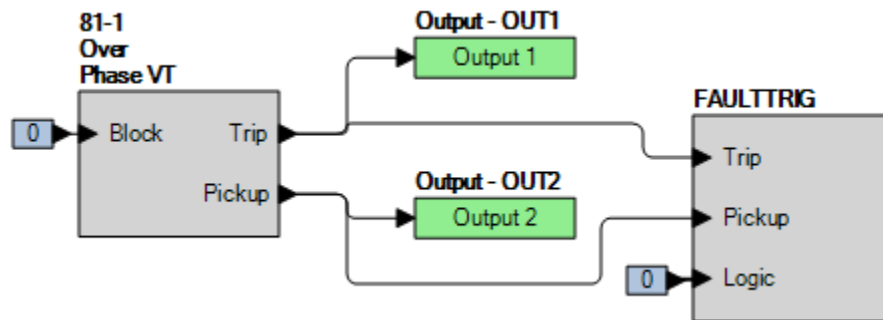

Figure 62-1. *BESTlogicPi* Settings (Overfrequency)
Step 2: Use *BESTCOMSPi* to configure the *BESTlogicPi* programmable logic shown in Figure 62-1.
Step 4: Prepare to monitor the 81-1 function operation. Operation can be verified by monitoring OUT2 (see Figure 62-1).